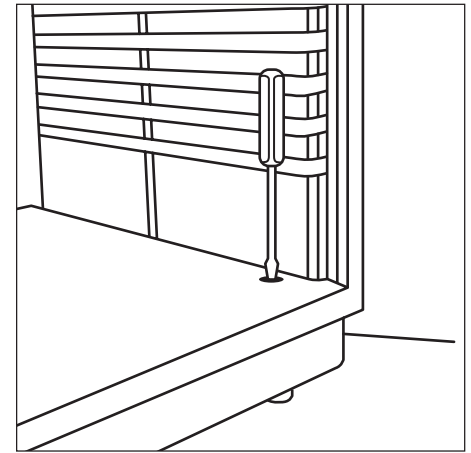

Fig. 3
8. Level the unit by using a 1/4" (6mm) flat tipped screwdriver and turning the leveling screws clockwise to raise or counter-clockwise to lower the unit (Fig. 3).